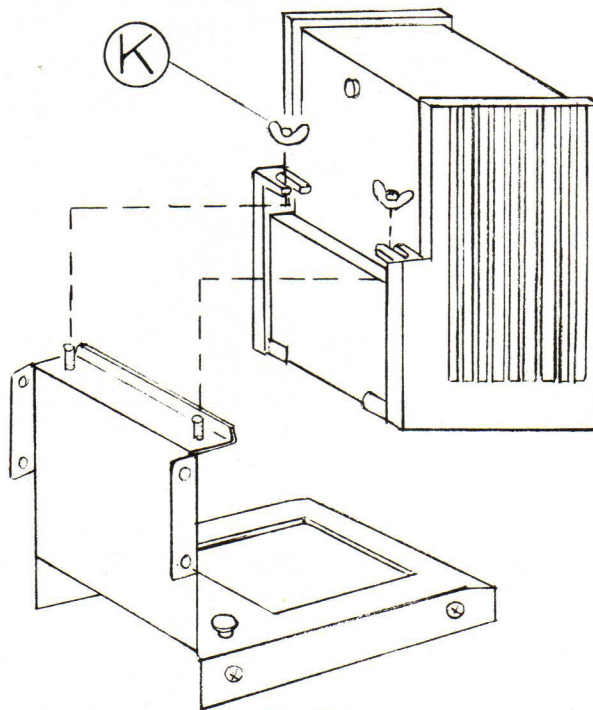

FIGURE 4
- K. Raise the Lamphouse Elevating Arm and mount the Lamphouse on the Projector Assembly using the 2 wing nuts as illustrated in Fig. 4.